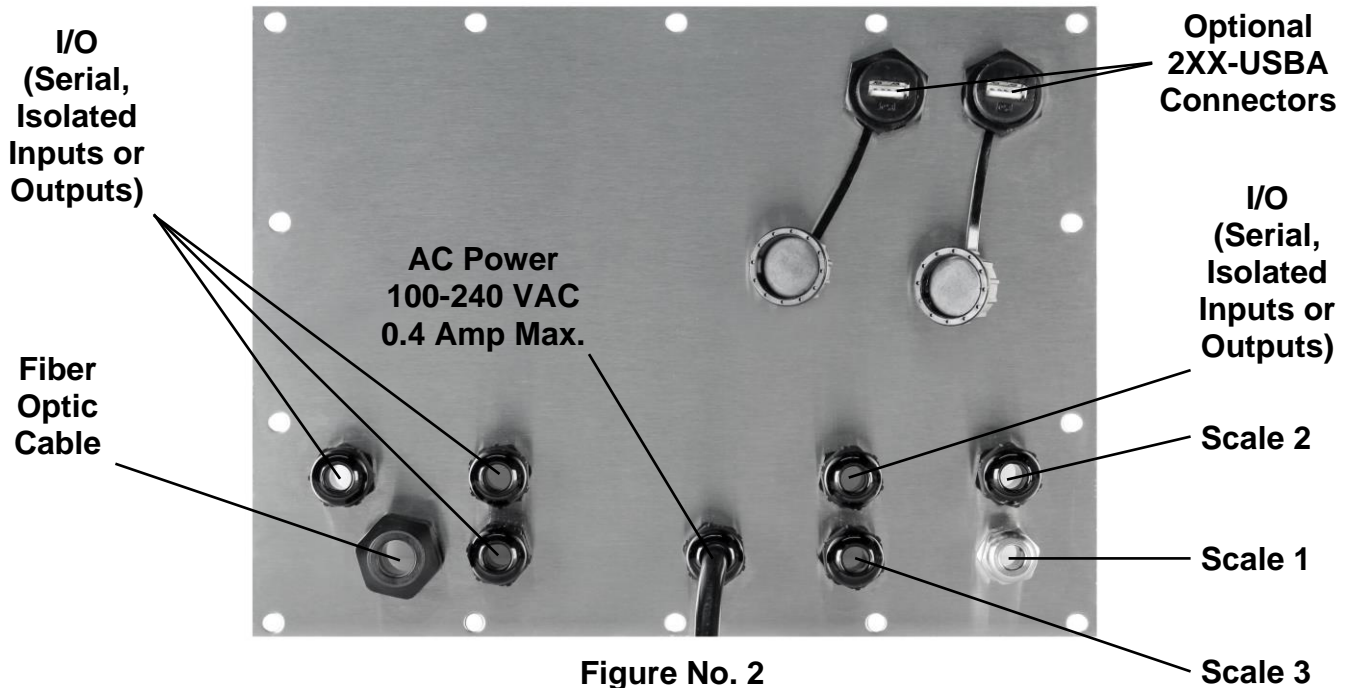

Figure No. 2
To eliminate RFI, the load cell cable should be routed through the special metallic gland connector and the shield wire from the load cell cable must be connected to this gland connector for grounding. Refer to Figure No. 2 for the gland connector layout.
2. Referring to Figure No. 2, choose a gland connector for the load cell cable and loosen it.
2. Loosen the gland connector for the serial cable. Refer to Figure No. 2 for the gland connector layout.